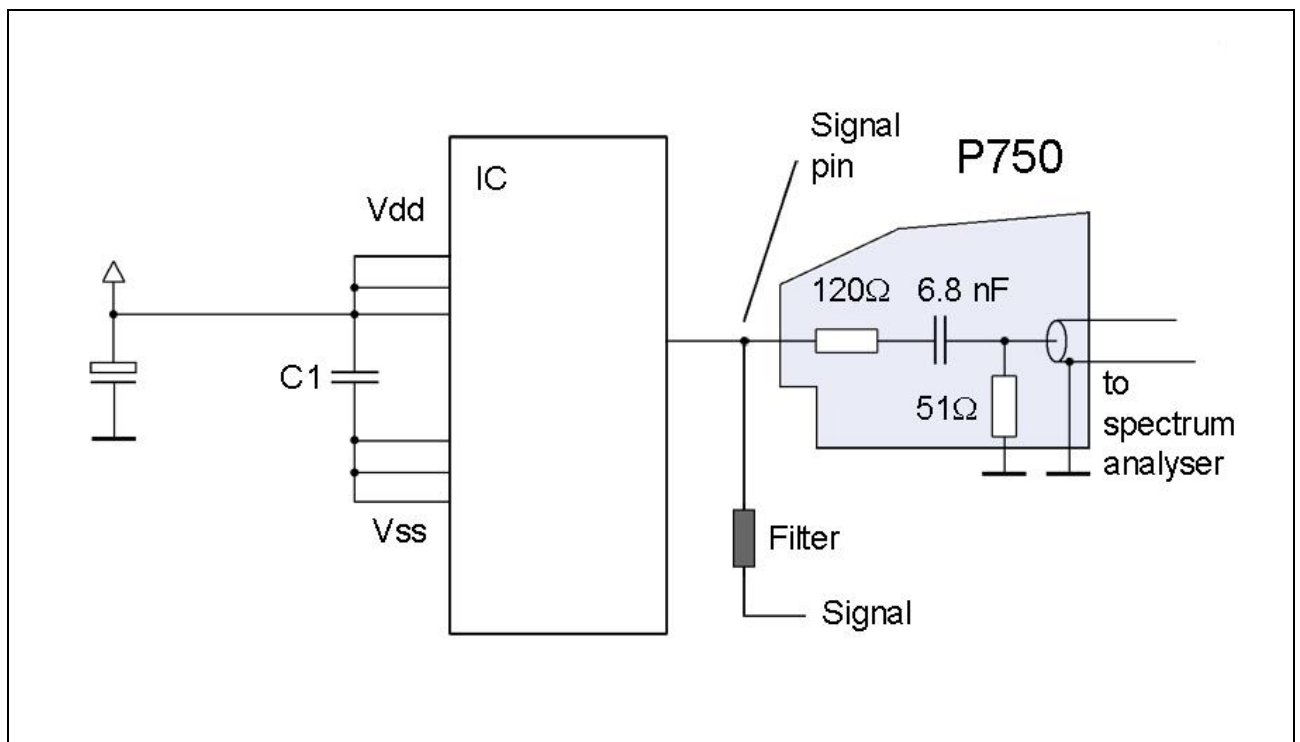

Figure 8: P750, voltage measurement on a signal pin while this is in operation.
4. Voltage measurement (P750) on a signal pin while this is in operation, **Figure 8**